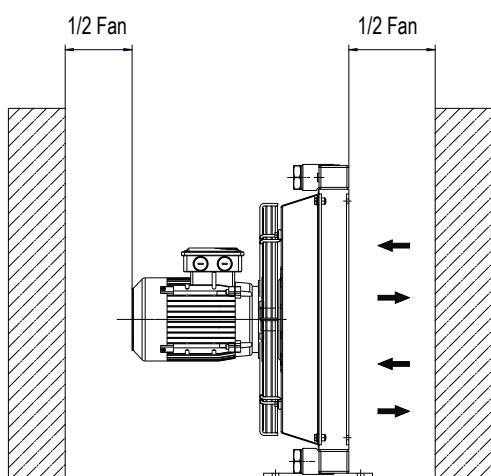

Fig.1
Lo scambiatore può essere montato in posizione orizzontale o verticale, rispettando la distanza minima dalla parete ( vedi fig. 1 ), in modo da assicurare un naturale afflusso e deflusso dell' aria di raffreddamento.
*The exchangers can be fitted in a horizontal position, respecting the minimum distance from the wall (see fig.1) so as to ensure a natural flow of cooling air. The exchangers is usually installed on oil tank return piping; it must also be protected from impacts and mechanical vibrations by supports and must be connected to the plant with flexible pipes.*